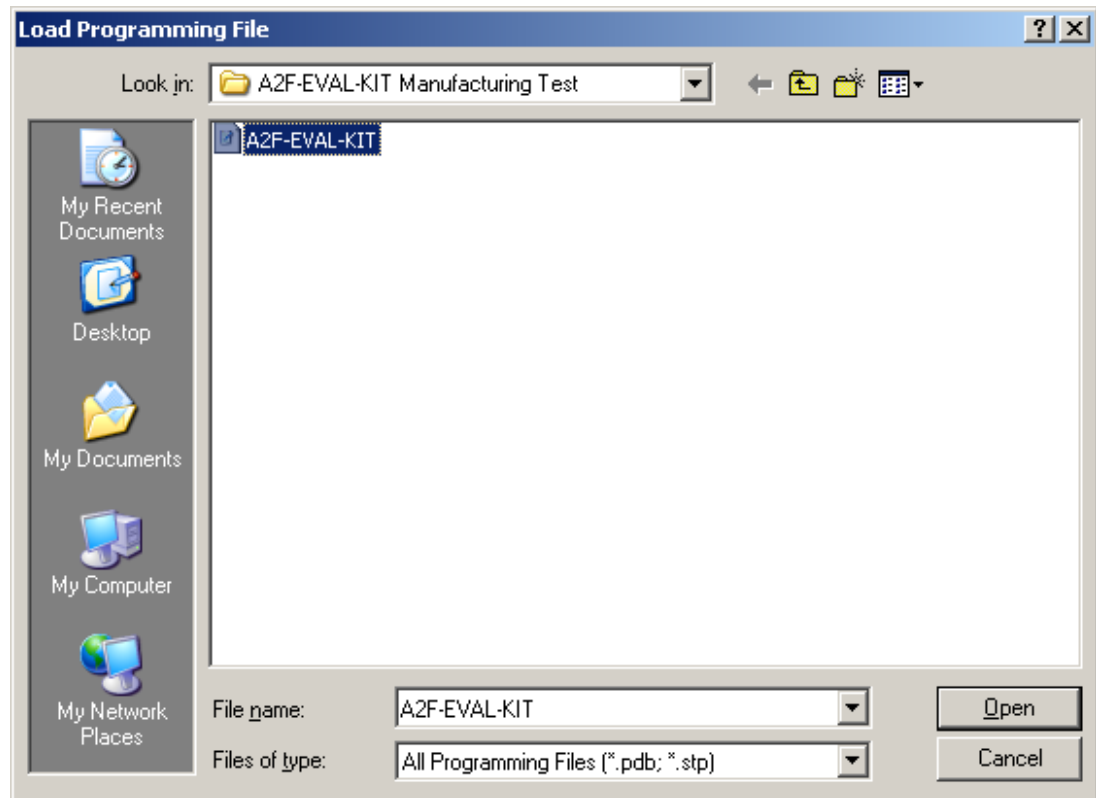

**Figure 6-3 • New Project Creation**
2. Create a new programming project (Figure 6-3).